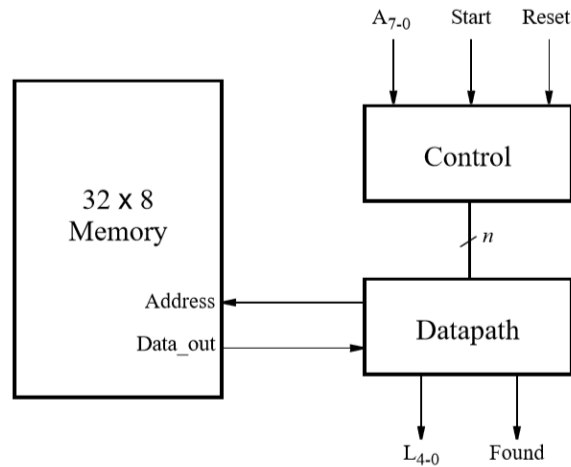

Figure 2. A block diagram for a circuit that performs a binary search.
We wish to implement a binary search algorithm, which searches through an array to locate an 8-bit value  $A$  specified via switches  $SW_{7-0}$ . A block diagram for the circuit is shown in Figure 2.
3. Connect your FSM and datapath to the memory block as indicated in Figure 2.